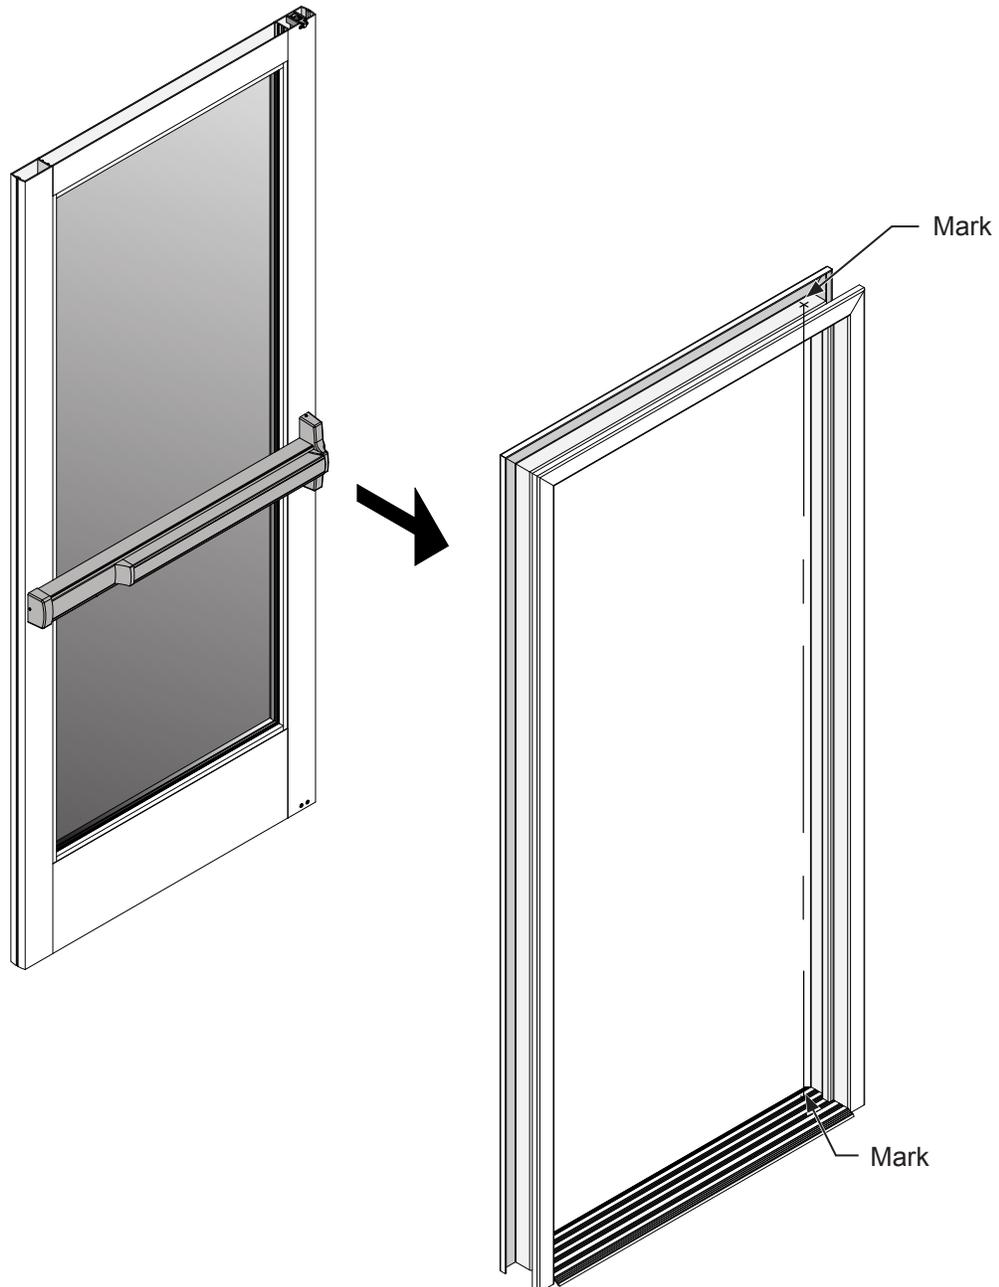

FIG. 16
1. Make sure that the panic exit device is in the dogged position. Both the upper and bottom latches must clear the frame. Re-attach the door to the frame. **(Fig. 16)**